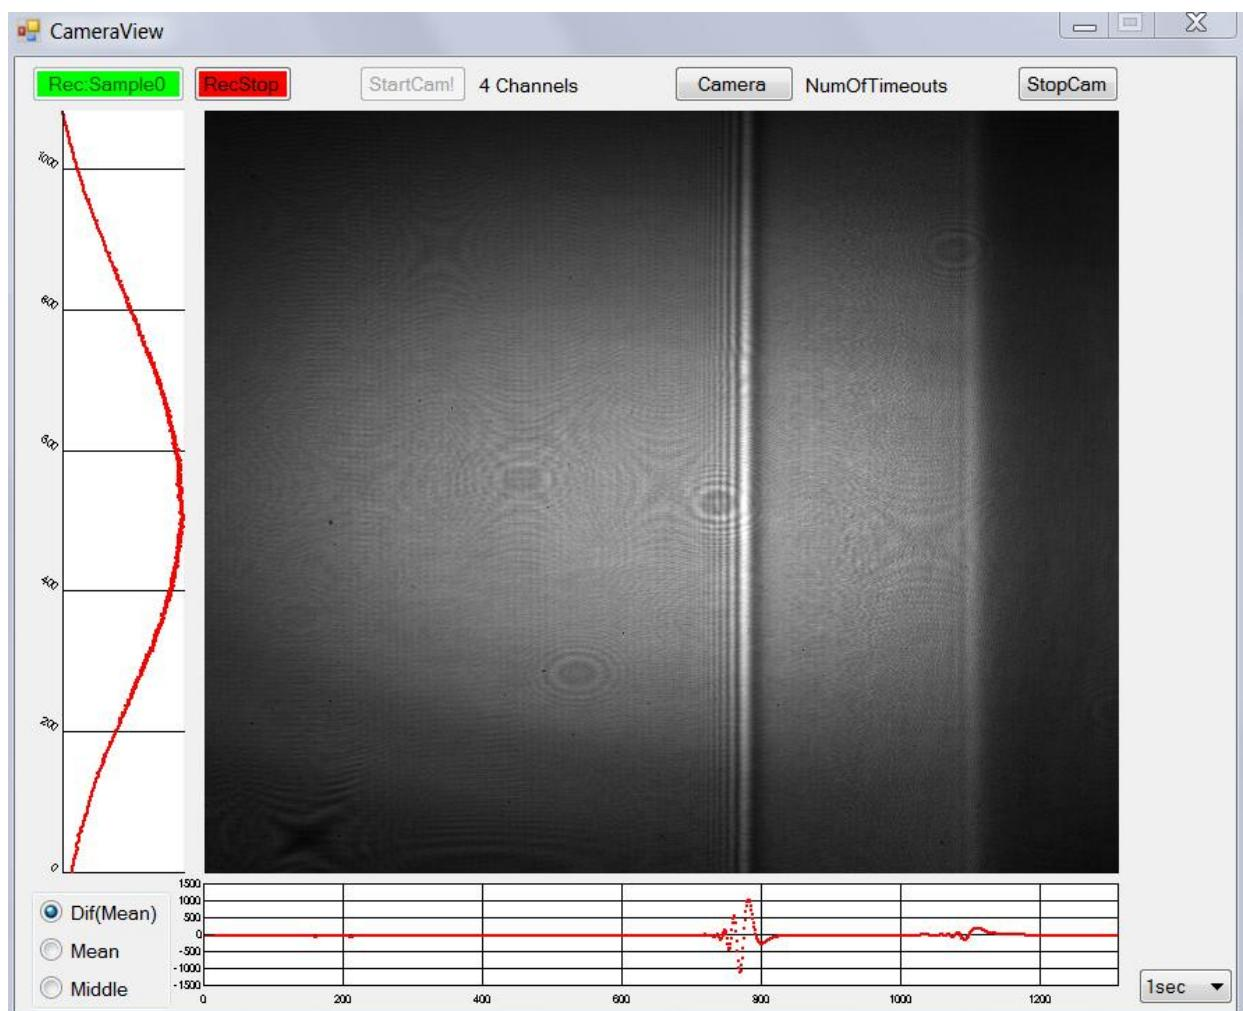

Figure 4. Typical (differential) picture of reflection profile.
7. When the flow cell is filled with liquid, a picture analogous to that shown in **Figure 4** appears on the monitor.
When the flow cell is filled with liquid but the picture on the monitor is not analogous with what is shown in **Figure 4**, this means that either the sensor chip is not clean or small air bubbles are in the flow cell. The presence of very small contaminants on the surface of the sensor chip distorts the shape of interference lines. In this case, it is necessary to remove the sensor chip and wash it carefully.